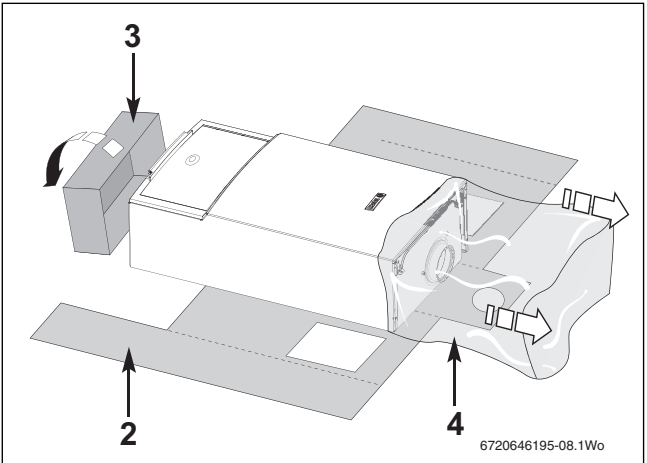

Fig. 24 Packaging removal
- The inner sleeve [2] opens as shown in figure 24.